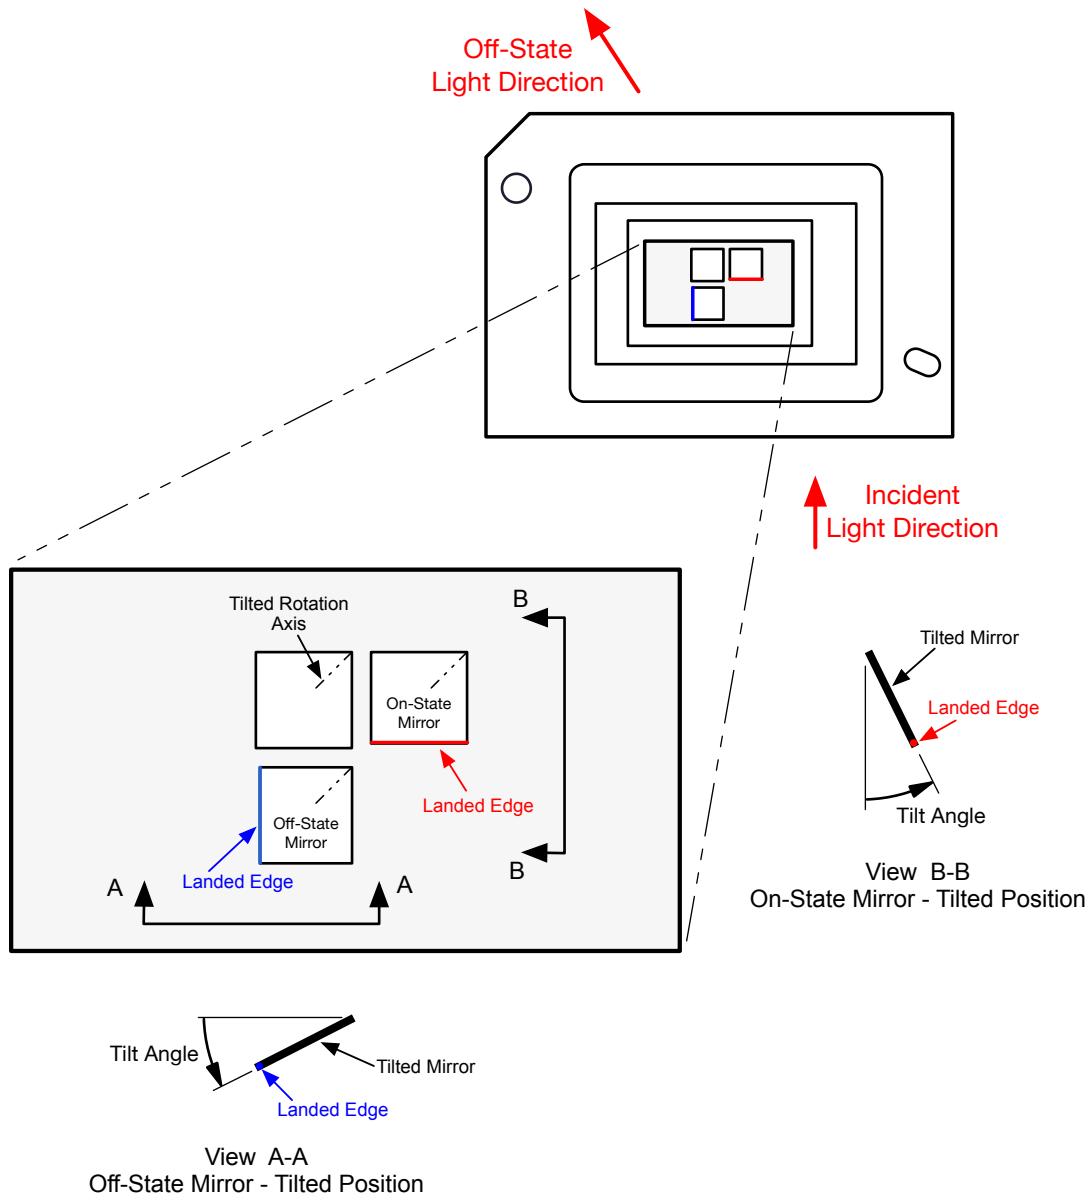

**Figure 6-14. Micromirror Array Physical Characteristics**
- (1) See Figure 6-14.
- (2) The fast switching speed of the DMD micromirrors combined with advanced DLP image processing algorithms enables each micromirror to display four distinct pixels on the screen during every frame, resulting in a full 3840 × 2160 pixel image being displayed.
- (3) The structure and qualities of the border around the active array includes a band of partially functional micromirrors referred to as the *Pond Of Micromirrors* (POM). These micromirrors are structurally and/or electrically prevented from tilting toward the bright or ON state but still require an electrical bias to tilt toward the OFF state.